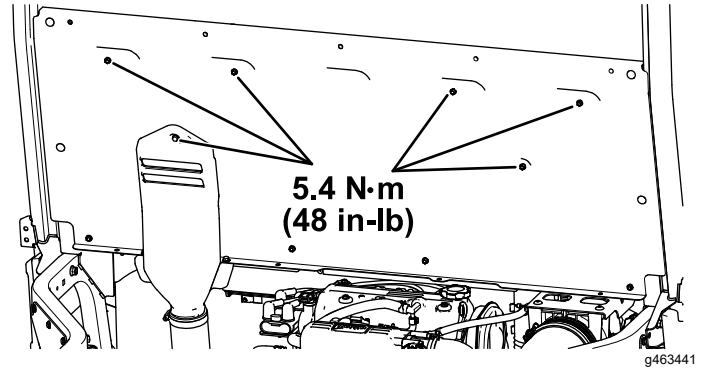

Figure 68
- H. Torque the 11 hex-washer head bolts (1/4 x 3/4 inch) and the captive bolt attached to the CVT-intake hood to 5.4 N·m (48 in-lb) as shown in Figure 68.